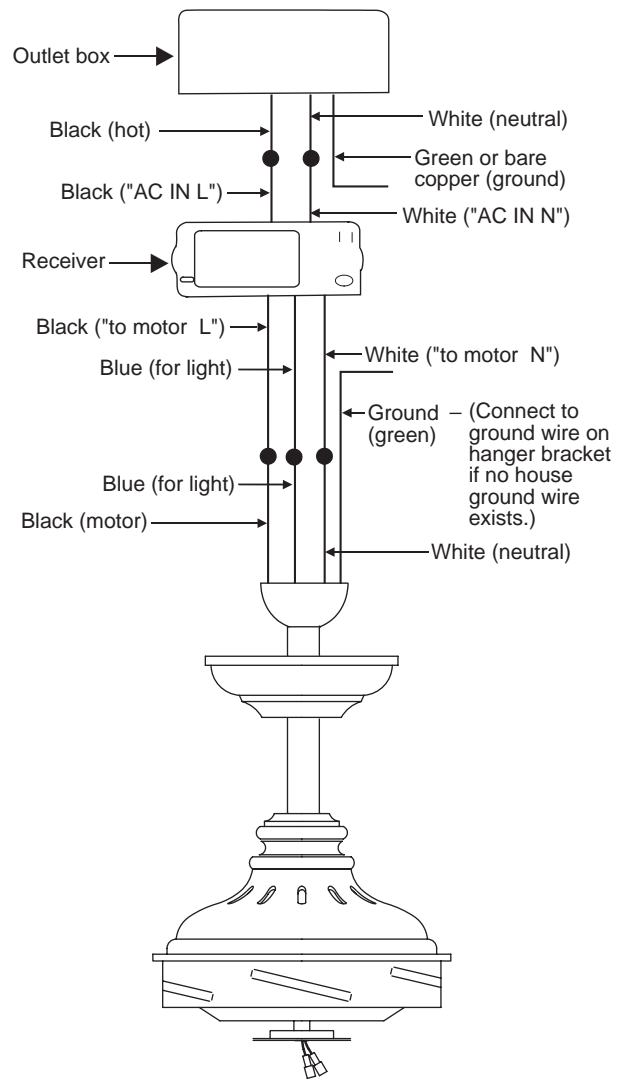

Figure 12
Step 2. (Fig. 12 and 13) Motor to Receiver Electrical Connections: Connect the black wire from the fan to black wire marked "TO MOTOR L" from the Receiver. Connect the white wire from the fan to the white wire marked "TO MOTOR N" from the Receiver. Connect the blue wire from the fan to the blue wire marked "For Light" from the Receiver. Secure the wire connections with the plastic wire nuts provided.
Step 3. (Fig. 12 and 13) Receiver to house supply wires electrical connections: connect the black (hot) wire from the ceiling to the black wire marked "AC in L" from the Receiver. Connect the white (neutral) wire from the ceiling to the white wire marked "AC in N" from the Receiver. Secure the wire connections with the plastic wire nuts provided.
Step 4. (Fig. 12 and 13) If your outlet box has a ground wire (green or bare copper) connect it to the fan ground wires; otherwise connect the hanging bracket ground wire to the mounting bracket. Secure the wire connection with a plastic nut provided. After connecting the wires, spread them apart so that the green and white wires are on one side of the outlet box and black and blue wires are on the other side.